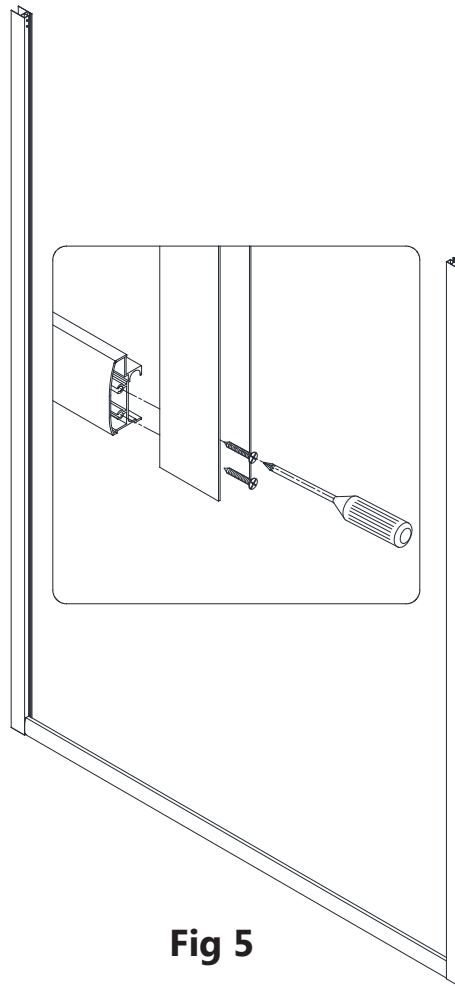

Fig 5
4. Secure the **Bottom Guide Rail (#03)** to the **Glass Profiles (#01)** with the **Round Head Screws ST4.2x25 (#10)**. (**Fig 5**)